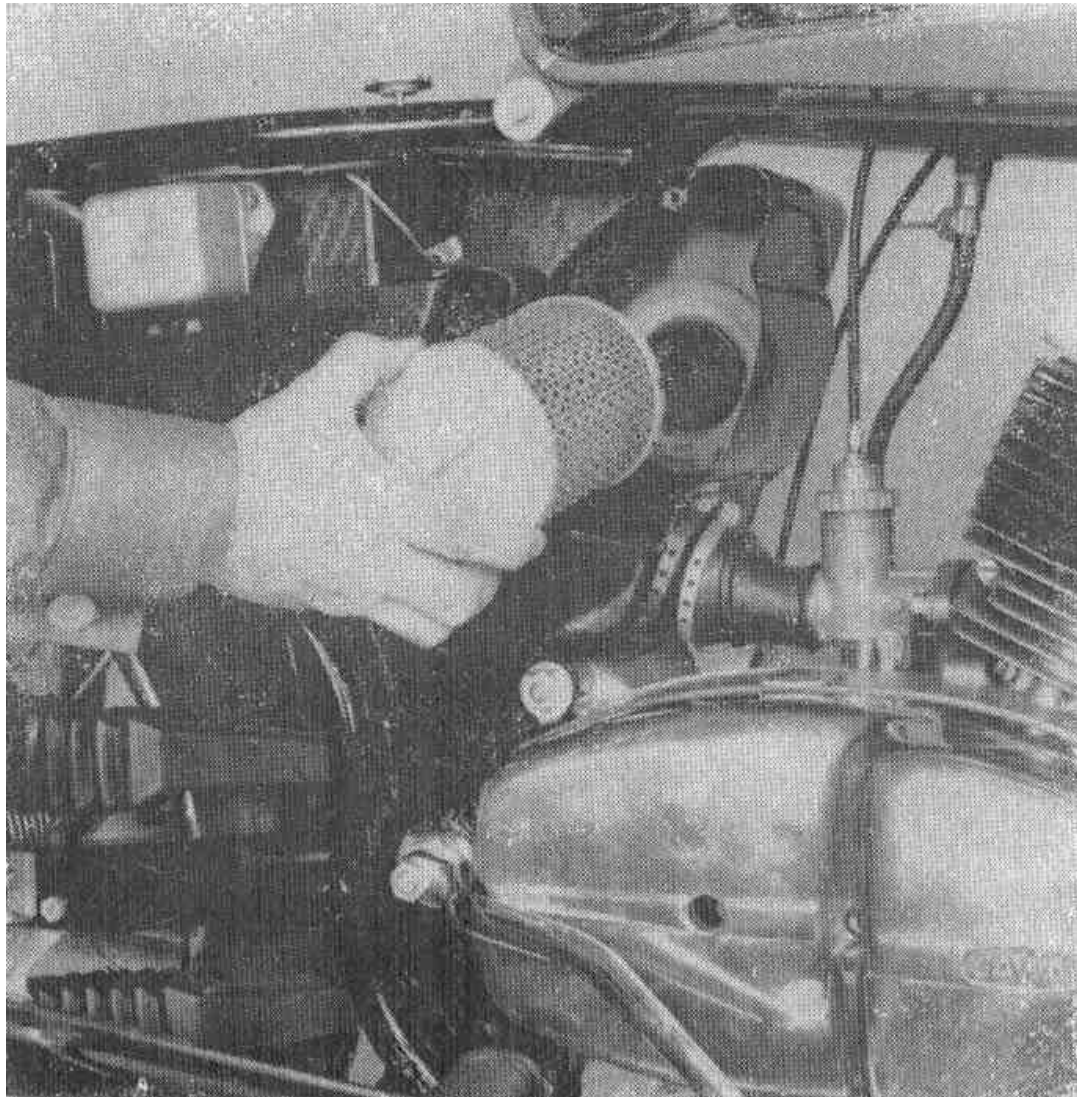

Fig. 23 – Removal of intake silencer body
9. AIR CLEANER (MICROMESH FILTER) (Fig. 23, 24)